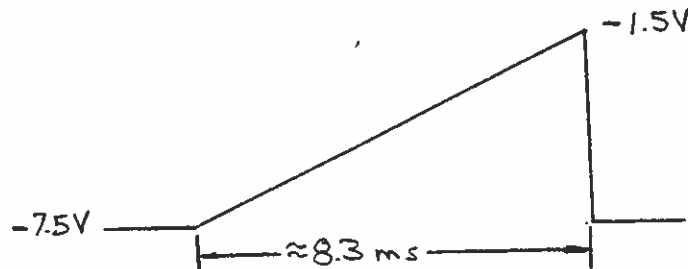

fig. 2
f) Check the waveform at pin 7, and 8 of U15 to fig. 2.